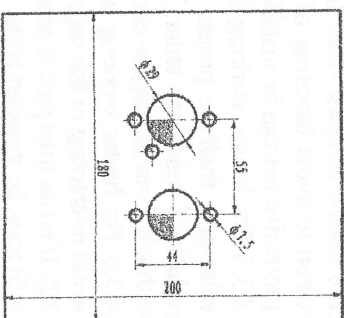

Fig. 10
4.2.4 If the sickness of the installation panel < 1.5mm a mounting plate may need. Between mounting plate and the car body must also be sealed (use glass glue(Fig.10)).